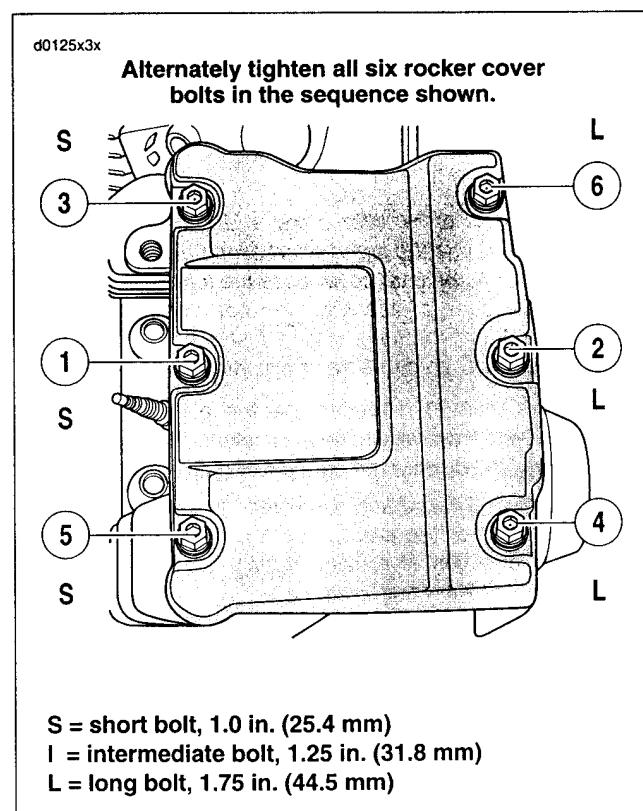

Figure 3-49. Rocker Cover Bolts Torque Sequence (Rear Cylinder Shown)
- See Figure 3-49. Install rocker cover bolts.